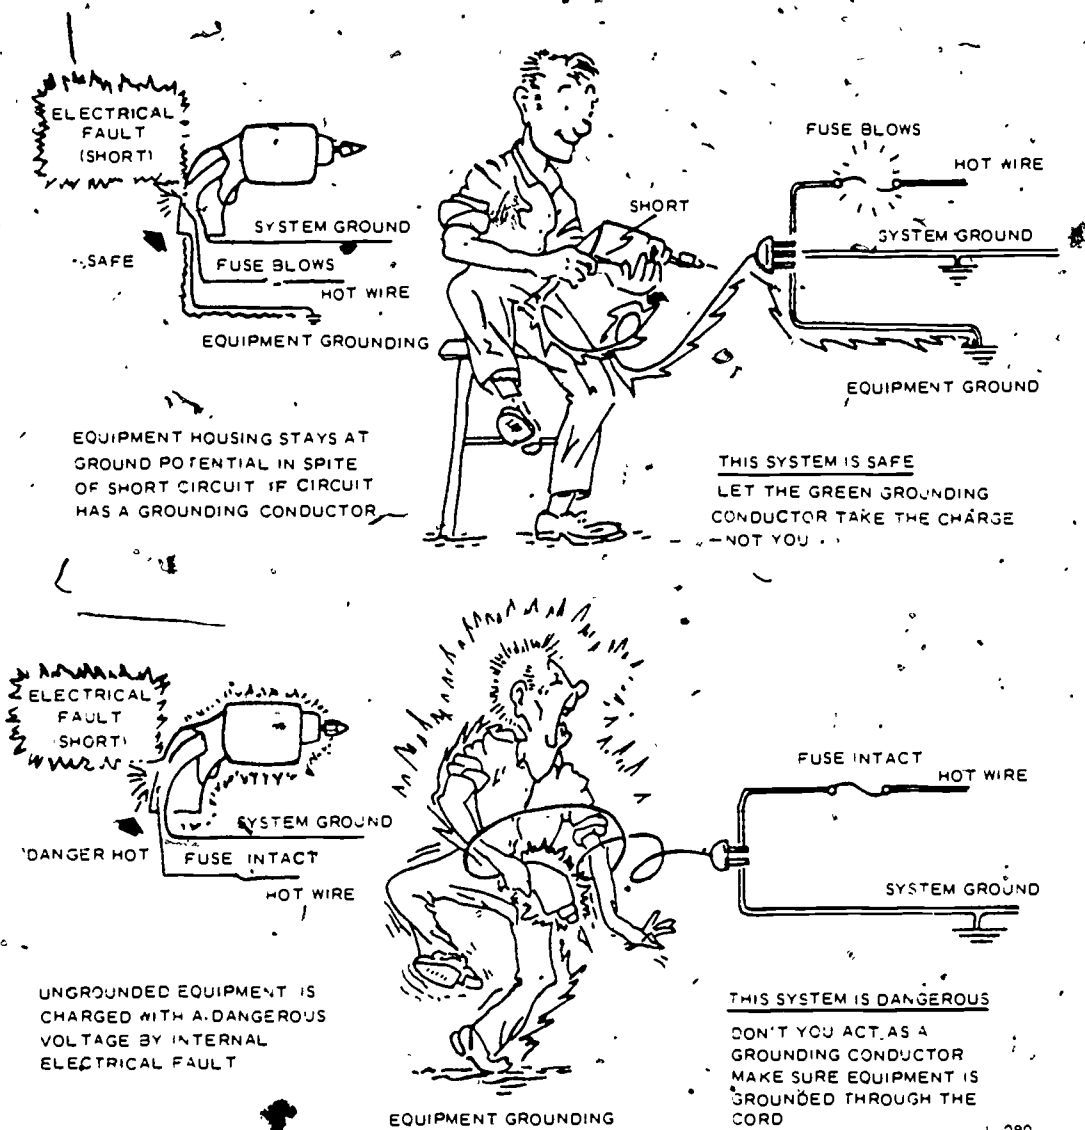

Figure 2-5. How equipment grounding works
**Improper grounding.** When you use power tools, check them to make certain that they have three-wire cords. The extension cord must also have three wires and be plugged into a grounded receptacle. Figure 2-5, how equipment grounding works, shows how a drill motor equipped with a three-wire cord can protect the operator by providing a low-resistance path to ground for the current from a defective tool. It also shows what can happen to you with equipment that is improperly grounded.